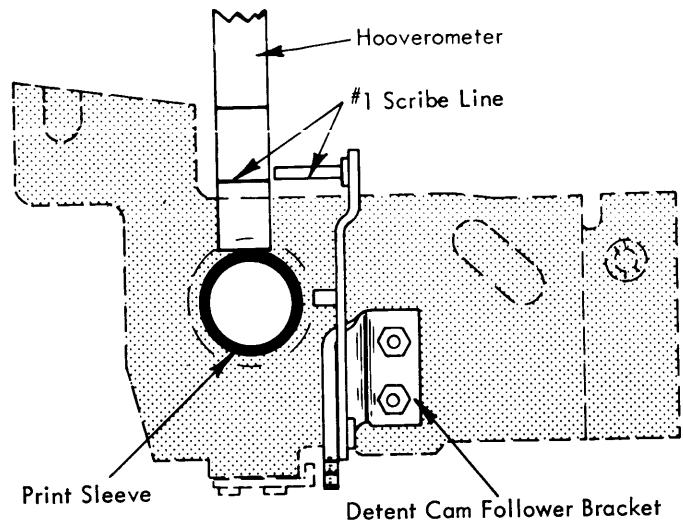

FIGURE 39b. Detent Cam Follower Bracket
- b. Vertically so that the bottom surface of the pin on the cam follower lines up with the scribe line #1 on the Hoovermeter when the Hoovermeter is placed against the print sleeve as shown in Figure 39b.